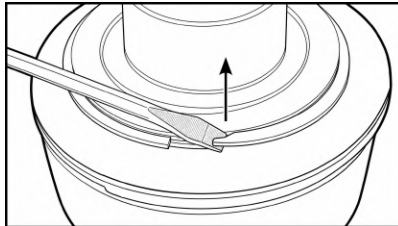

Fig. 16
- Using a flat-blade screwdriver, pry up the edge of the retaining ring and remove it. Then remove the magnet from the Electric Locker. (**Fig. 16**)